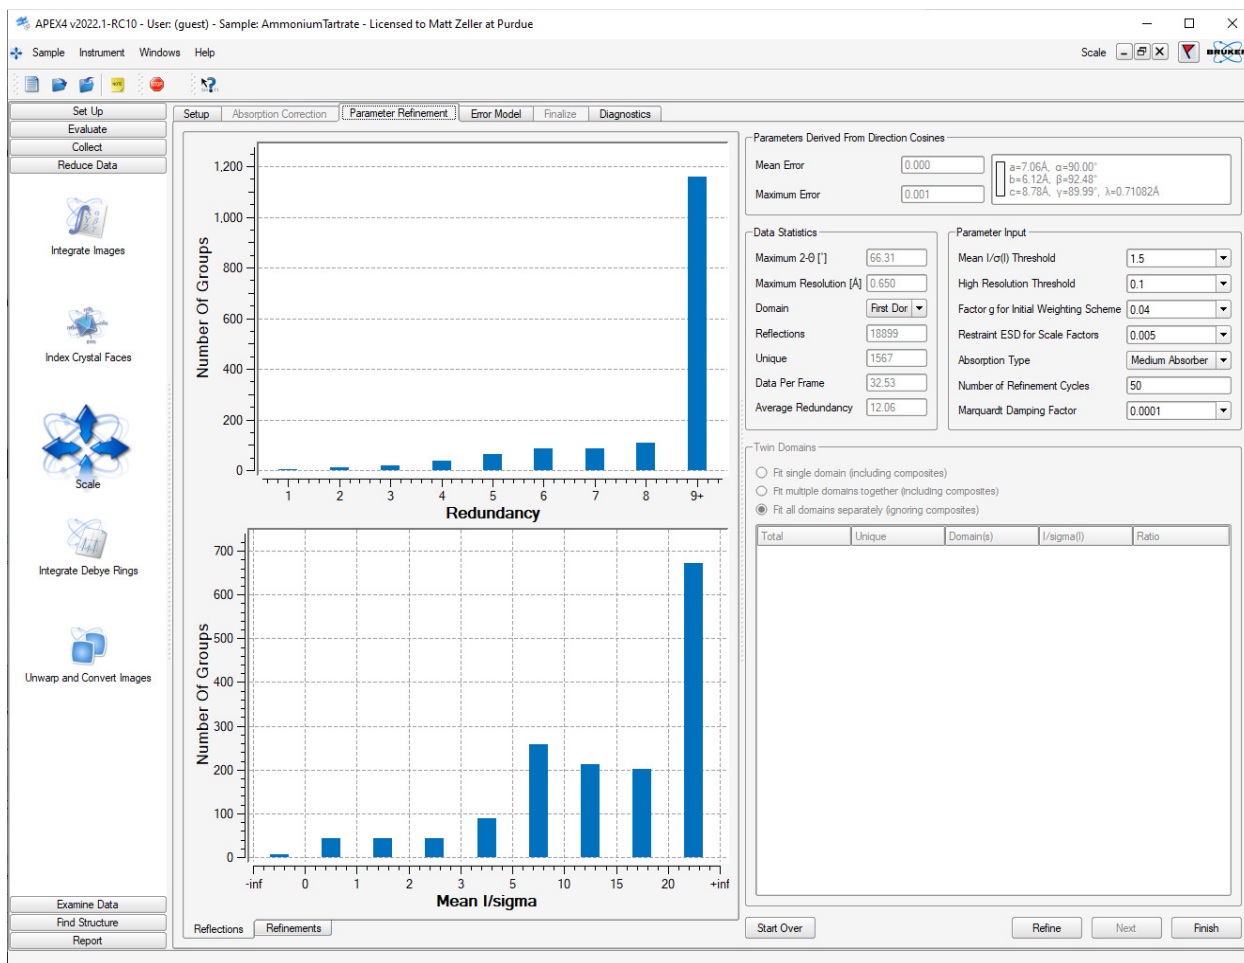

Figure 25, Absorption Correction window (second Scale Window) before refinement
- Click Refine, wait for the refinement to finish and inspect the results. The parameter refinement curve should show a smooth and steady decline (as in Fig. 25) and the final R value should be reasonably low. Large up and down fluctuations in R[%] combined with higher than expected R values could be a sign that scaling and absorption correction effects are highly correlated. This will seldom be a problem with a large beam and penetrating, little absorbed MoK α radiation. In the rare case when the refinement results appear less than ideal, try dampening scaling by selecting a higher value for Restraint ESD for Scale Factors and repeat the parameter refinement (click Refine once more). Default is 0.005, the maximum allowed value is 0.02.